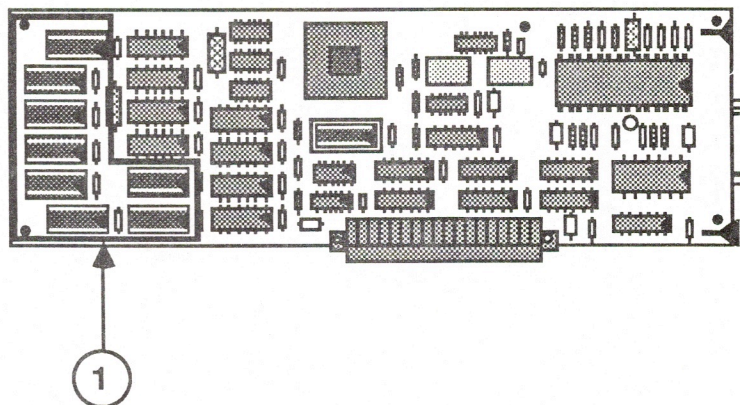

FIGURE 5
1. Install the eight new RAMs in the appropriate locations: B1, C1, D1, E1, G1, H1, G2, and H2 (Figure 5, #1).
2. Remove one RAM at a time and replace it with a known-good RAM. The locations are B1, C1, D1, E1, G1, H1, G2, and H2 (Figure 5, #1).